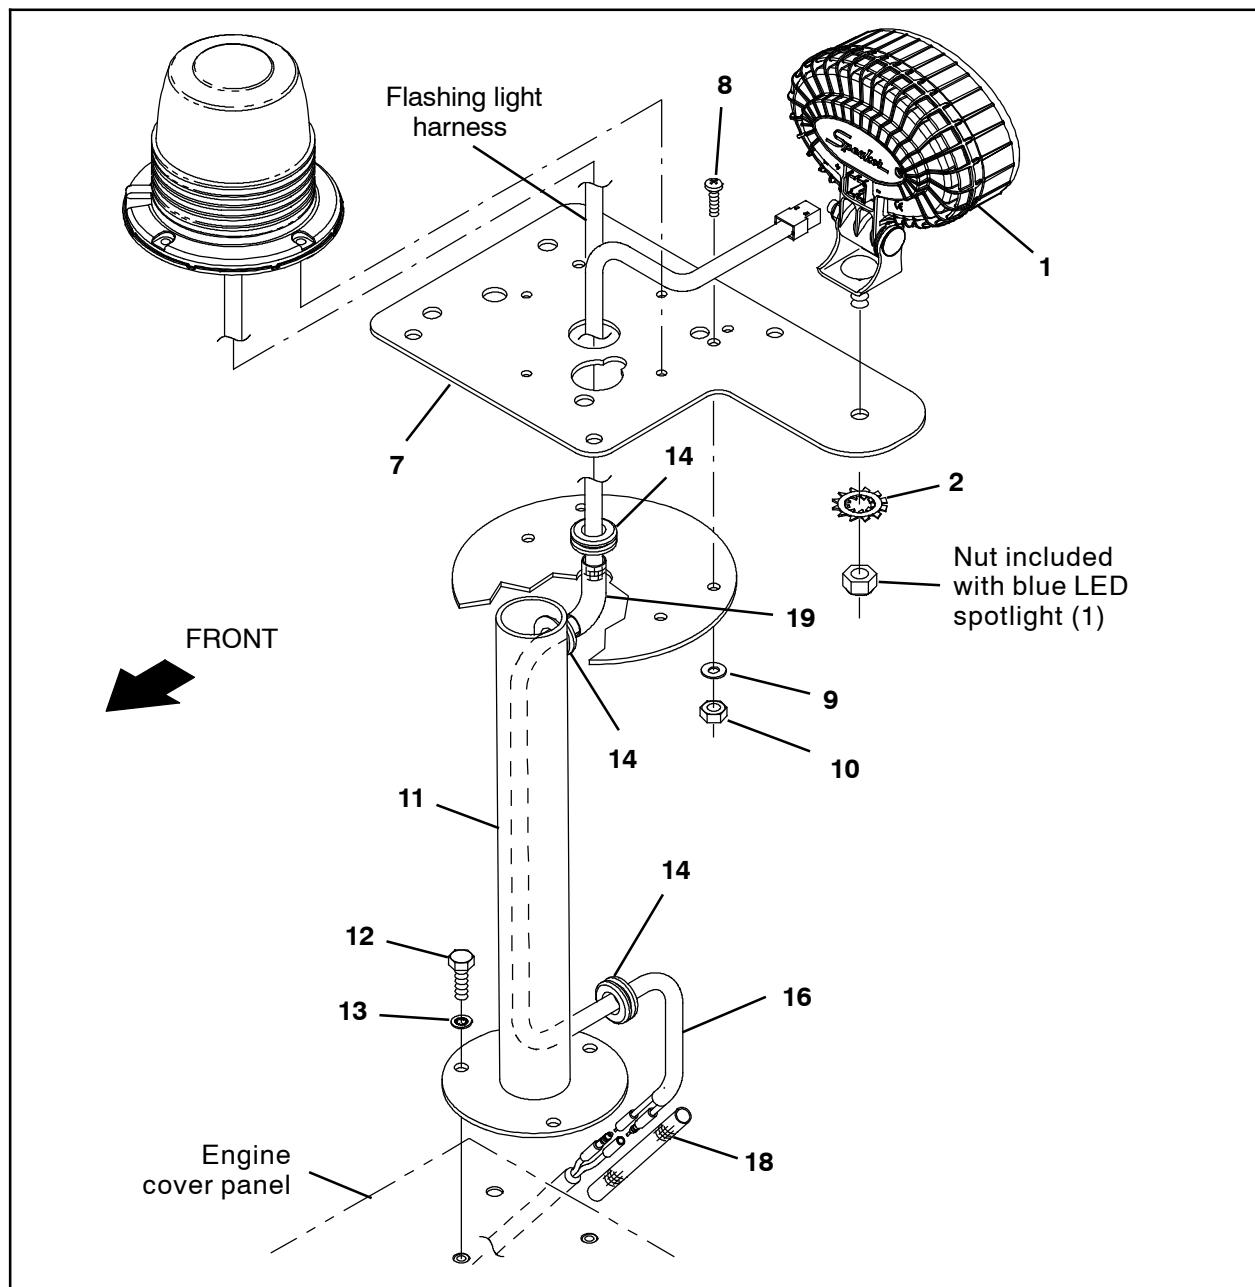
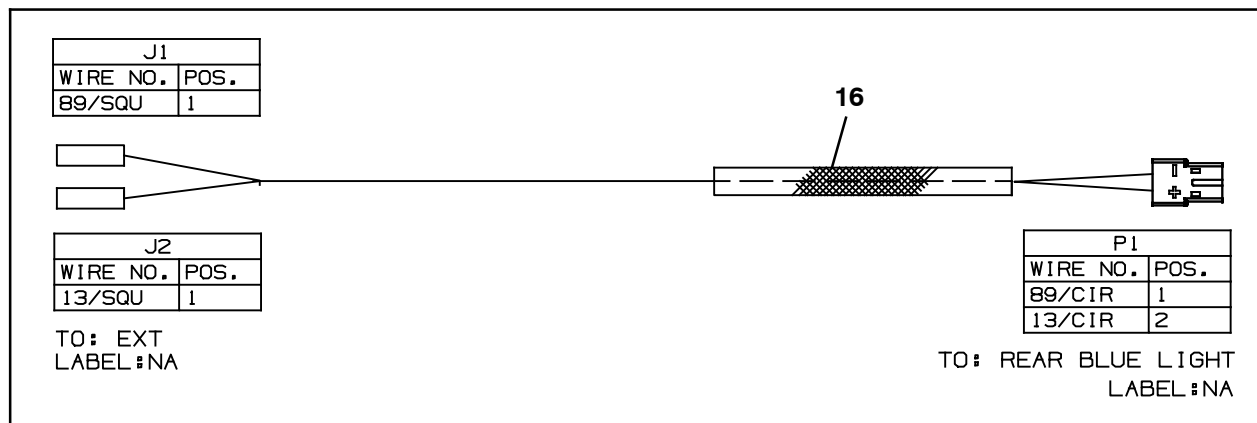

FIG. 13
FIG. 14
5. Use four M5 pan screws (8), four flat washers (9), and four M5 hex screws (10) to install the rear spotlight bracket (7) onto the light pedestal (11). (Fig. 13)
6. Slide a grommet (14) onto the flashing light harness and blue spotlight harness (16) ends to be routed out through the bottom of the light pedestal (11). (Fig. 13)
7. Route the flashing light harness and blue spotlight harness (16) through the rear spotlight bracket (7). (Fig. 13)
8. Slide another grommet (14) onto the flashing light harness and blue spotlight harness (16). (Fig. 13)
9. Route the flashing light harness and blue spotlight harness (16) through the top hole in the light pedestal (11) and down through the bottom hole. (Fig. 13)
10. Slide another grommet (14) onto the flashing light harness and blue spotlight harness (16). (Fig. 13)
11. Install the flashing light/strobe light onto the rear spotlight bracket (7). (Fig. 13)
12. Connect the flashing light harness to the flashing light/strobe light. (Fig. 13)
13. Remove the hex nut included with the blue LED spotlight (1) from the light. (Fig. 13)
14. Use the hex nut removed from the blue LED spotlight (1) in the previous step and a lock washer (2) to install the blue LED spotlight onto the rear spotlight bracket (7). (Fig. 13)
15. Connect the blue spotlight harness (16) to the blue LED spotlight (1). (Fig. 13/Fig. 14)
16. Insert the grommets (14) into the holes in the light pedestal (11)/rear spotlight bracket (7). (Fig. 13)
17. Use three M6 hex nuts (12) and three lock washers (13) to install the light pedestal (11)/blue spot light (1) onto the engine cover panel. (Fig. 13)
18. Install the (3 in. (76 mm)) vinyl sleeve (19) onto the exposed area of the blue spotlight harness (16) between the two grommets (14) at the top light pedestal (11). (Fig. 13)
19. Use black electrical tape to secure the (3 in. (76 mm)) vinyl sleeve (19) onto the blue spotlight harness (16). (Fig. 13)
20. Route the backup light/alarm harness and blue spotlight harness (16) through the hole in the engine cover corner panel. (Fig. 13)
21. Install the (6 in. (152 mm)) vinyl sleeve (18) onto the exposed area of the blue spotlight harness (16) between the grommet (14) at the bottom of the light pedestal (11) and the grommet in the engine cover corner panel. (Fig. 13)
22. Use black electrical tape to secure the (6 in. (152 mm)) vinyl sleeve (18) onto the blue spotlight harness (16). (Fig. 13)
24. Connect the blue spotlight harness (17) BLUE LIGHT EXT leads to the blue spotlight harness (16). (Fig. 13/Fig. 14)
28. Adjust both blue LED spotlights (1) to customer preference.